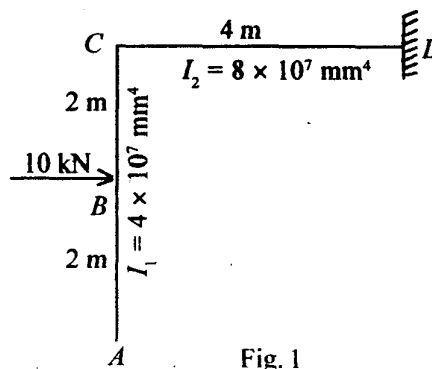

Fig. 1
1. Find the vertical and horizontal deflection of the end *A* of the member *ABCD* shown in Fig. 1. Take $E = 210 \text{ kN/mm}^2$. 20